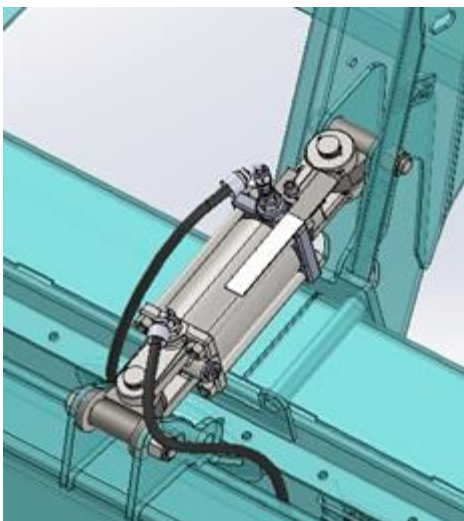

Figure 321
1. Hydraulic Tilt Option. A cylinder is installed in the center of the header and is controlled by the AX Lite box in the cab to energize a solenoid to divert oil from the fore/aft cylinders to the tilt cylinder. Figure 321